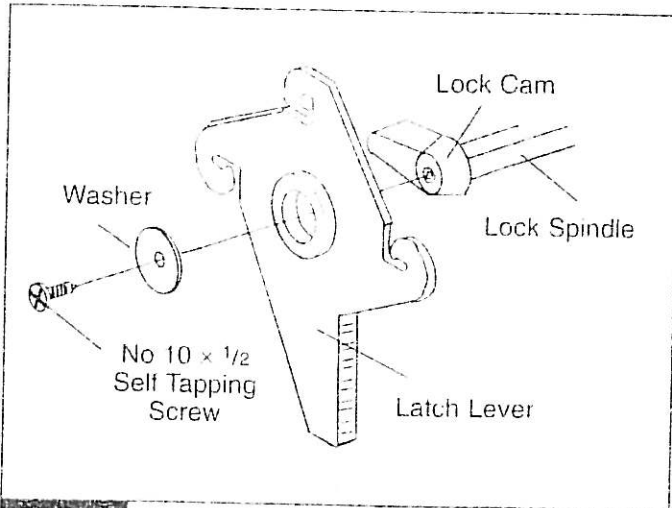

FIG 4
10 From the front of the door, ensure handle is turned fully anti-clockwise. From inside garage place plastic lock cam onto the square lock spindle in orientation shown in Fig 4. Fit latch lever over lock cam as shown and fix with self tapping screw and large washer provided.
2. Wearing safety glasses, close door and grip R/H blue pulley with 22mm A/F spanner and by turning upwards, align holes in spring anchor bush and spring shaft. Insert retaining pin (4mm dia. x 50mm split pin or similar) fully into this hole as shown, then remove the spanner. (See Fig. 4)